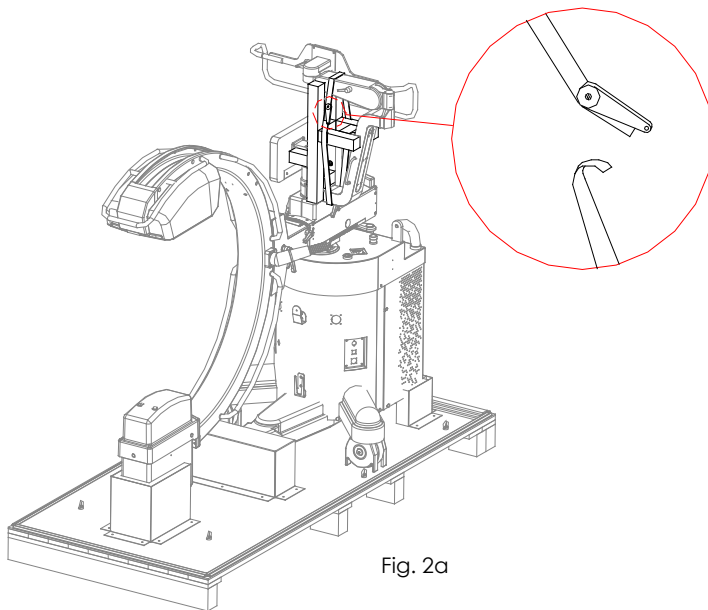

Fig. 2a
- 2 Unlock the retaining strap (Fig. 2a) and **carefully** unlock the brake lever of the upper arm.